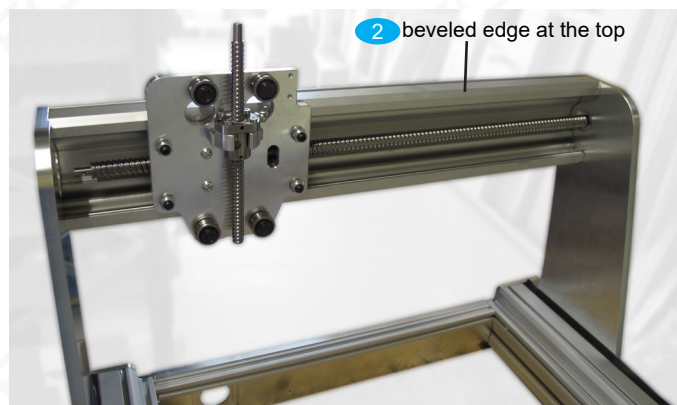

Fig. 19: Portal group consisting of guide profile and sled with roller guidance and spindles for X and Z
- Use flat-head screws **G3** to assemble the construction consisting of the guide profile and sled between the portal plates, as shown in Fig. 19. Insert the right end of the X spindle into the